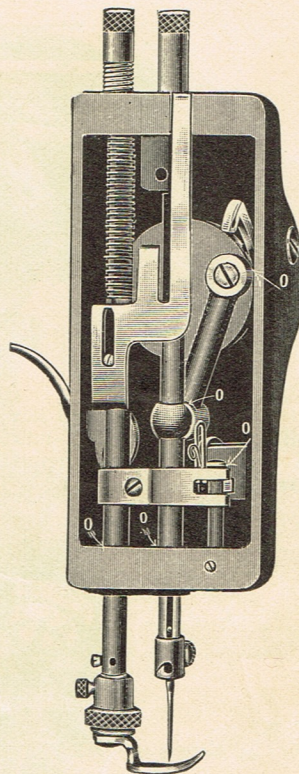

Figure 7
See Figure 7
To remove the face plate remove thumb screw which holds plate to arm of machine. Oil parts marked by letter (O) in Fig. 7. Oil freely but not too liberally, otherwise the oil will drip down and soil the goods. After oiling wipe up superfluous oil and replace face plate. Oil the machine every day you use it.